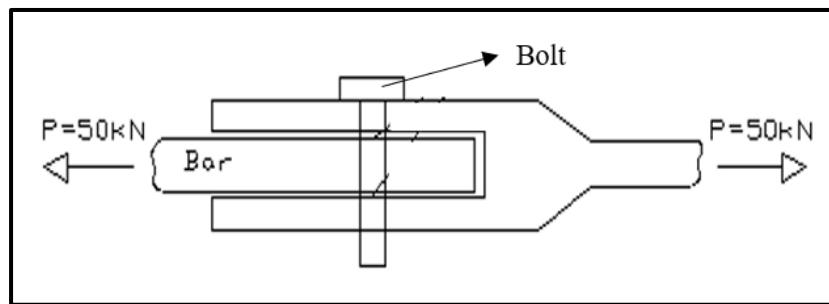

Figure 2(c)
- (c) A bar as shown in Figure 2(c) is pulled with a force of 50 kN, calculate: